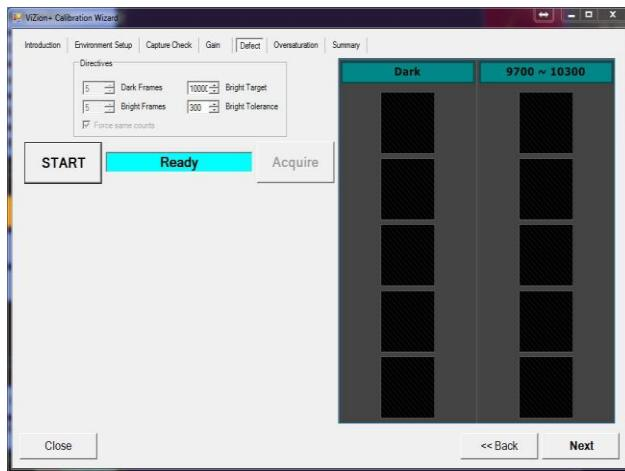

Figure 29: Defect Tab
- OpalUAI v2.3.4.22+: Bright Tolerance is already adjusted, select START, once Dark Frames are complete, select Acquire, and fire shots within Targeted field. You will notice that it does not take the same amount of radiation to reach the desired exposure level because offset subtraction was not previously in effect on other tabs. Figure 29